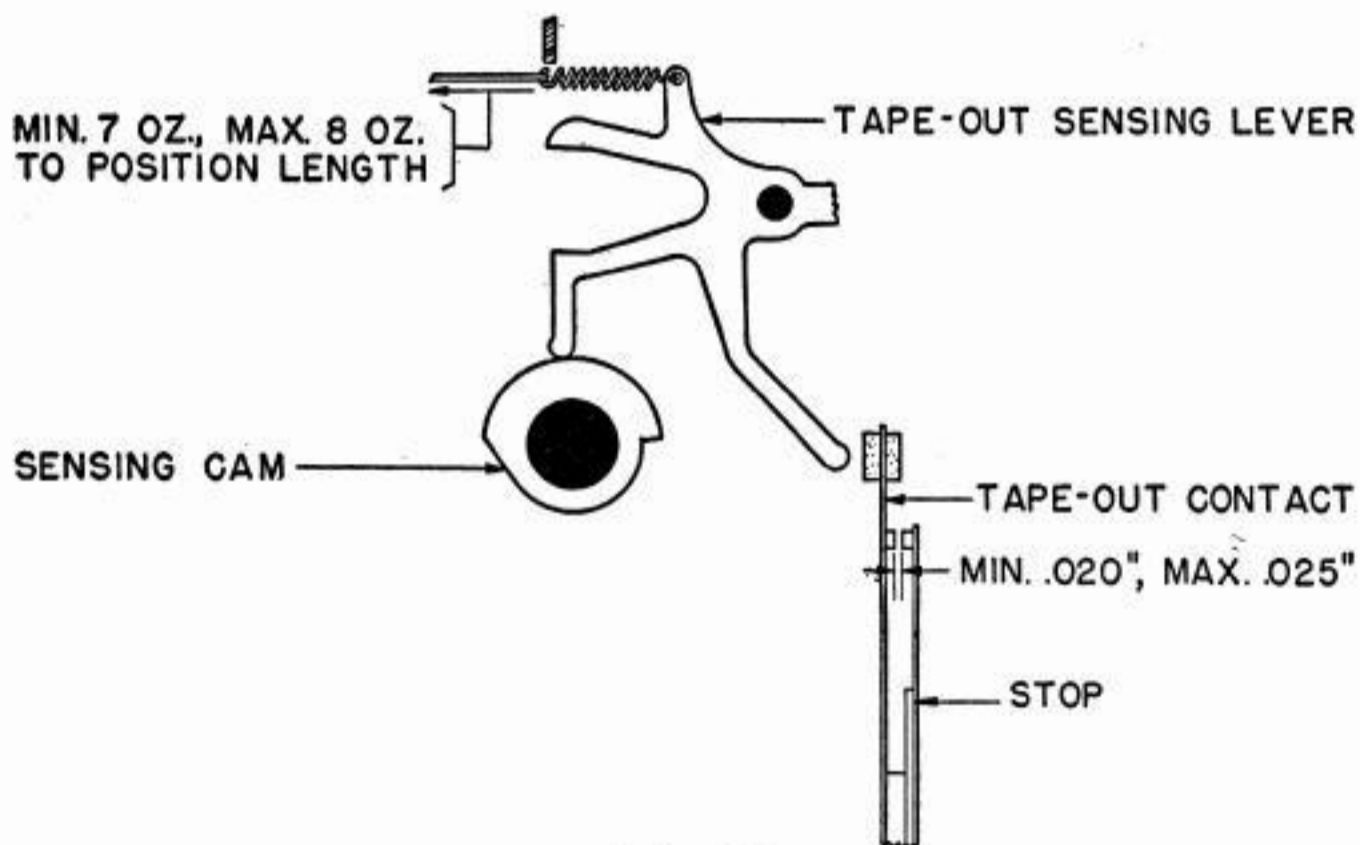
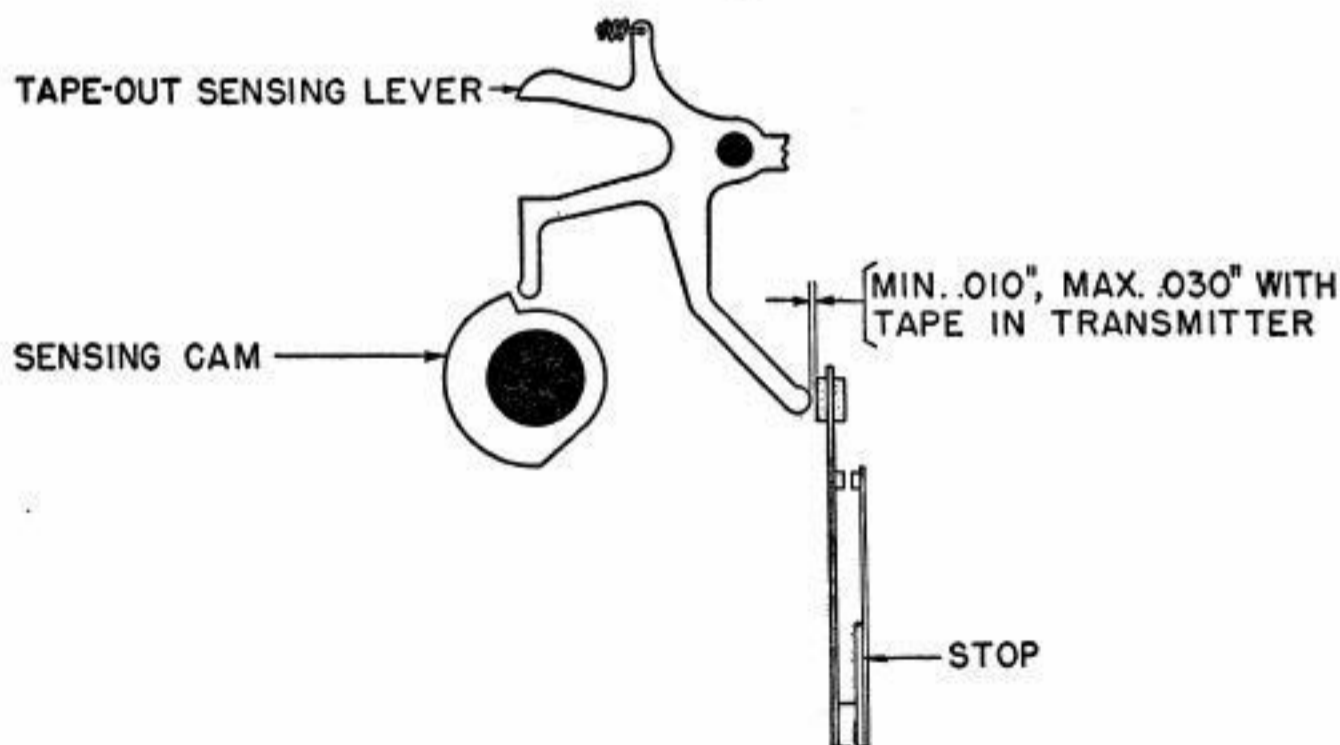

Fig. 68
Fig. 69
(1) If there is no clearance, refine (b).
2.135 **Tape-Out Sensing-Lever Spring:** It should require a pull as indicated in Fig. 68 to pull the spring to position length with the tape-out-sensing lever on the high part of its cam. **Fig. 68**
- (b) The short-contact spring should rest lightly against its stop. **Fig. 68**
(1) To adjust, bend the spring.
- (c) The long- and short-contact springs should be approximately parallel and at approximately right angles to their mounting bracket. There should be a clearance as indicated in Fig. 68 between the contacts of the opposing springs. **Fig. 68**
(1) To adjust, bend the springs or short spring stop. Replace the mounting bracket.
- (d) With a piece of tape perforated with the LTRS combination, inserted into the pivoted transmitter, and the sensing shaft rotated until the tape-out lever is opposite the low part of its cam, there should be a clearance as indicated in Fig. 69 between the insulator on the long-contact spring and the tip of the tape-out lever. **Fig. 69**